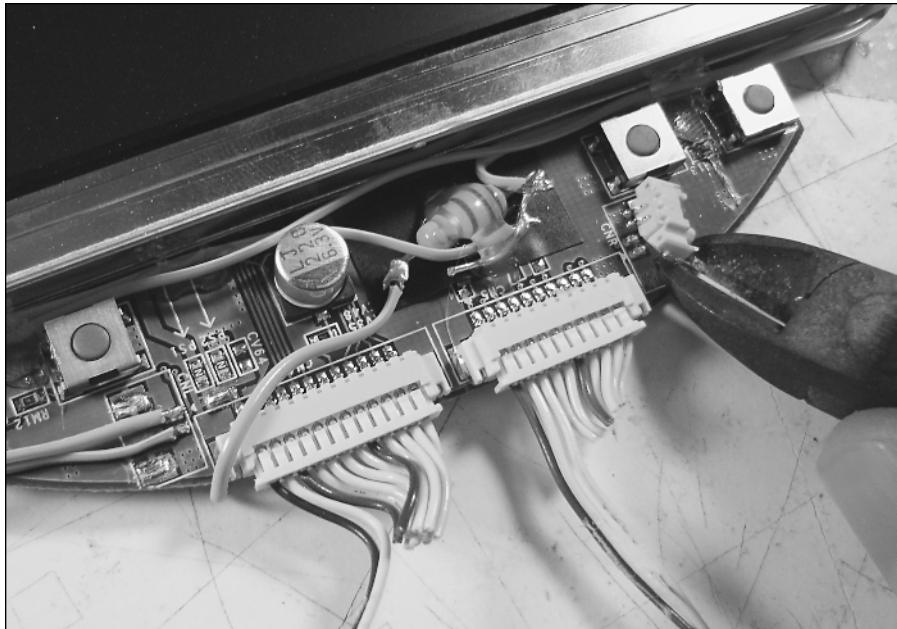

FIGURE 7-17: The cables cut, the speaker wire attached, and the old speaker plugs being removed.
2. Use your cutters to snip off the old speaker plugs. The results of Steps 1 and 2 should look as in Figure 7-17.